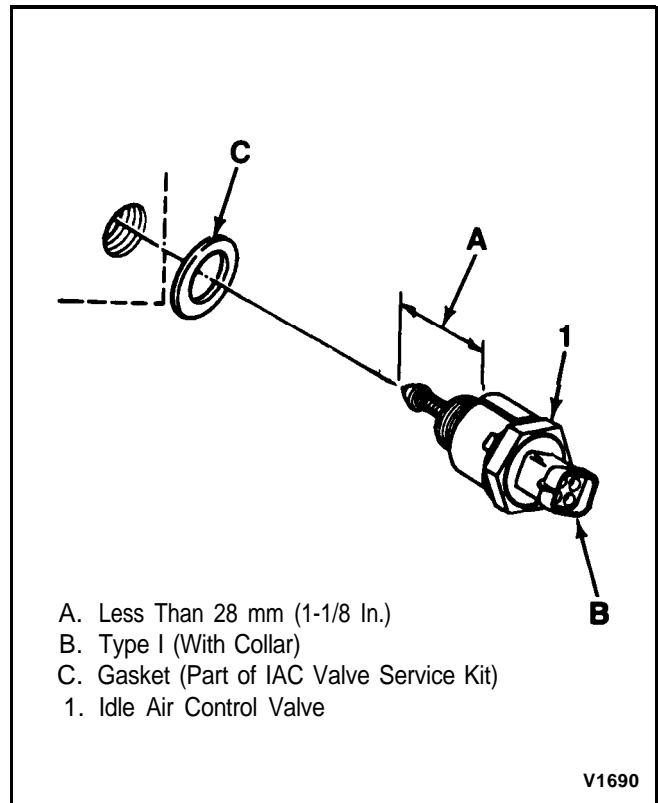

Figure C2-8 - IAC Valve Installation
2. Idle air control valve, using a 32mm (1-1/4") wrench (J 33031 or equivalent). (See Figure C2-8)
- Before installing new idle air control valve, measure the distance that the valve is extended (see Figure C2-8). Measurement should be made from motor housing to end of cone. Distance should be no greater than 28mm (1-1/8 in.). If the cone is extended too far, damage may occur to the valve when installed.